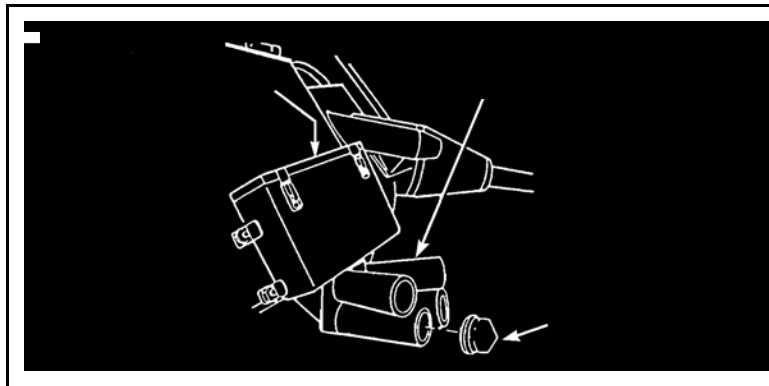

Figure 1. Smoke grenade and launcher.
1. Unload the smoke grenades. Ensure the turret drive system switch and the turret power switch are turned to OFF and the turret travel lock is engaged (Figure 1).